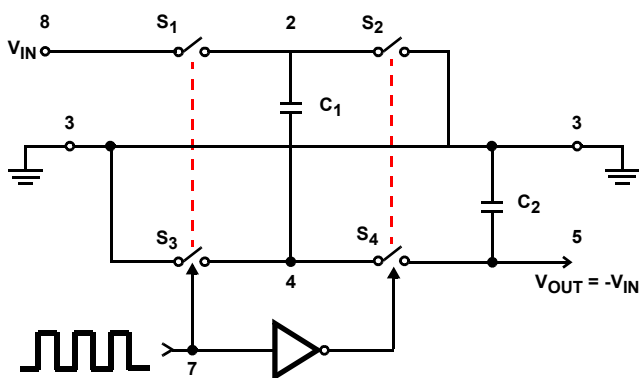
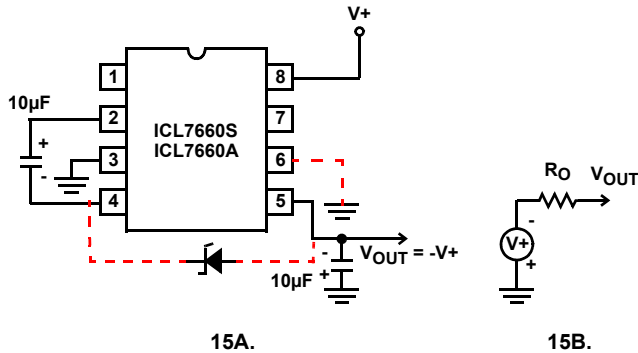
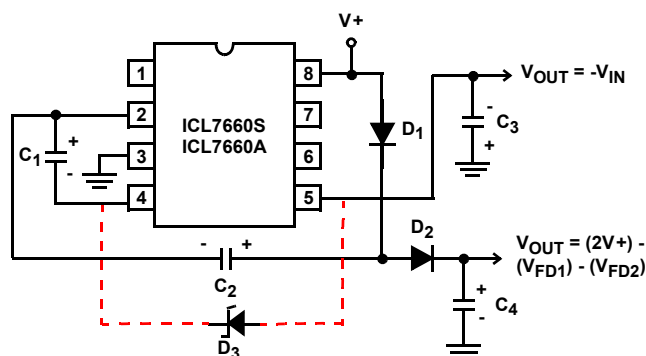
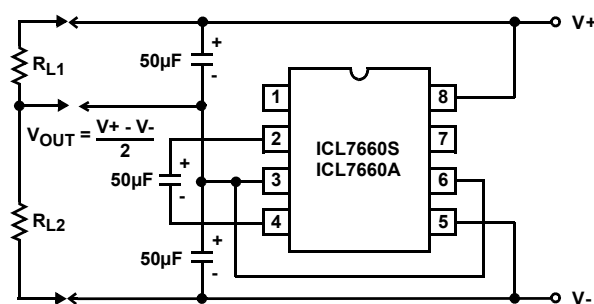

FIGURE 14. IDEALIZED NEGATIVE VOLTAGE CONVERTER
FIGURE 15. SIMPLE NEGATIVE CONVERTER AND ITS OUTPUT EQUIVALENT
FIGURE 19. COMBINED NEGATIVE VOLTAGE CONVERTER AND POSITIVE DOUBLER
FIGURE 20. SPLITTING A SUPPLY IN HALF
The ICL7660S and ICL7660A contain all the necessary circuitry to complete a negative voltage converter, with the exception of two external capacitors, which may be inexpensive 10 μ F polarized electrolytic types. The mode of operation of the device may best be understood by considering Figure 14, which shows an idealized negative voltage converter. Capacitor C_1 is charged to a voltage, V_+ , for the half cycle, when switches S_1 and S_3 are closed. (Note: Switches S_2 and S_4 are open during this half cycle). During the second half cycle of operation, switches S_2 and S_4 are closed, with S_1 and S_3 open, thereby shifting capacitor C_1 to C_2 such that the voltage on C_2 is exactly V_+ , assuming ideal switches and no load on C_2 . The ICL7660S and ICL7660A approach this ideal situation more closely than existing non-mechanical circuits.
In the ICL7660S and ICL7660A, the four switches of Figure 14 are MOS power switches; S_1 is a P-Channel device; and S_2 , S_3 and S_4 are N-Channel devices. The main difficulty with this approach is that in integrating the switches, the substrates of S_3 and S_4 must always remain reverse biased with respect to their sources, but not so much as to degrade their "ON" resistances. In addition, at circuit start-up, and under output short circuit conditions ($V_{OUT} = V_+$), the output voltage must be sensed and the substrate bias adjusted accordingly. Failure to accomplish this would result in high power losses and probable device latch-up.
where V_1 and V_2 are the voltages on C_1 during the pump and transfer cycles. If the impedances of C_1 and C_2 are relatively high at the pump frequency (see Figure 14) compared to the value of R_L , there will be a substantial difference in the voltages, V_1 and V_2 . Therefore it is not only desirable to make C_2 as large as possible to eliminate output voltage ripple, but also to employ a correspondingly large value for C_1 in order to achieve maximum efficiency of operation.
The majority of applications will undoubtedly utilize the ICL7660S and ICL7660A for generation of negative supply voltages. Figure 15 shows typical connections to provide a negative supply where a positive supply of +1.5V to +12V is available. Keep in mind that pin 6 (LV) is tied to the supply negative (GND) for supply voltage below 3.5V.
The output characteristics of the circuit in Figure 15 can be approximated by an ideal voltage source in series with a resistance as shown in Figure 15B. The voltage source has a value of $-(V_+)$. The output impedance (R_O) is a function of the ON resistance of the internal MOS switches (shown in Figure 14), the switching frequency, the value of C_1 and C_2 , and the ESR (equivalent series resistance) of C_1 and C_2 . A good first order approximation for R_O is shown in Equation 2:
Figure 19 combines the functions shown in Figure 15 and Figure 18 to provide negative voltage conversion and positive voltage doubling simultaneously. This approach would be suitable, for example, for generating +9V and -5V from an existing +5V supply. In this instance, capacitors C_1 and C_3 perform the pump and reservoir functions, respectively, for negative voltage generation, while capacitors C_2 and C_4 are pump and reservoir, respectively, for the doubled positive voltage. There is a penalty in this configuration which combines both functions, however, in that the source impedances of the generated supplies will be somewhat higher, due to the finite impedance of the common charge pump driver at pin 2 of the device.
The bidirectional characteristics can also be used to split a high supply in half, as shown in Figure 20. The combined load will be evenly shared between the two sides, and a high value resistor to the LV pin ensures start-up. Because the switches share the load in parallel, the output impedance is much lower than in the standard circuits, and higher currents can be drawn from the device. By using this circuit, and then the circuit of Figure 15, +15V can be converted, via +7.5 and -7.5, to a nominal -15V, although with rather high series output resistance ($\sim 250\Omega$).